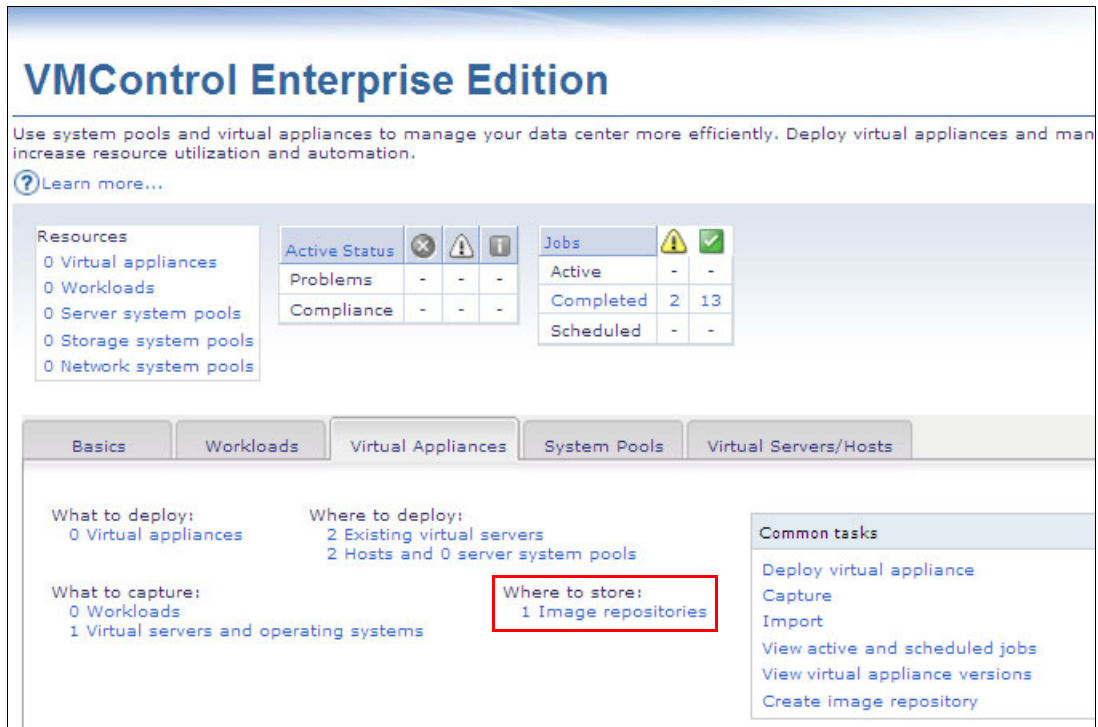

Figure 10-59 Checking the newly created image repository
13. The new NIM repository is created. Click the **Image repositories** link for more information about this repository, as shown in Figure 10-59.